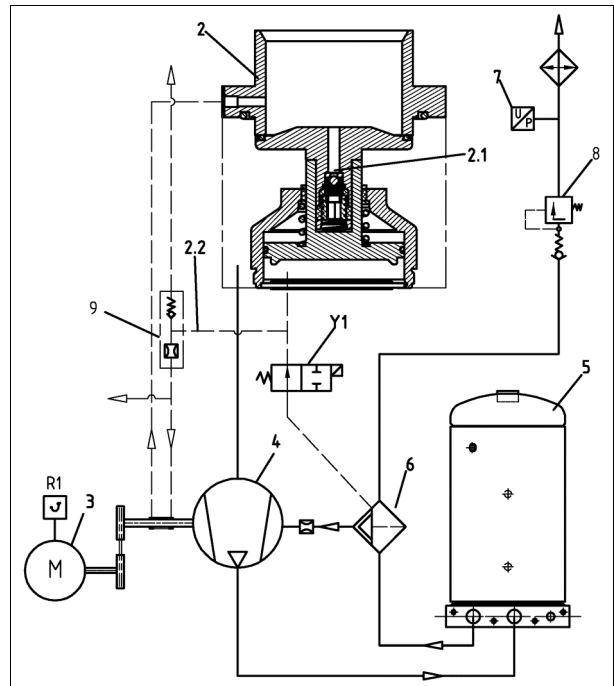

Fig. 4
- When the system is at rest the intake regulator (- 2 - Fig. 4) is closed.
- The solenoid valve (Y1 Fig. 4) is de-energised.
- The pressure reservoir (- 5 - Fig. 4) is bled via the blow-off line (- 2.2 - Fig. 4) and the orifice (-9 - Fig. 4) into the suction channel.
- The motor (- 3 - Fig. 4) starts up in the Y-mode.
- The compressor extracts a certain volume of air via a start valve (- 2.1 - Fig. 4). Pressure builds up in the reservoir and closes the regulator.
- When changing over to  $\Delta$  operation, the solenoid valve (- Y1 - Fig. 4) is energised, which blocks the connection between pressure vessel and intake regulator.
- The intake regulator opens due to the intake vacuum pressure. Venting of the control piston takes place via the blow-off line (- 2.2 - Fig. 4).
- The minimum pressure valve (- 8 - Fig. 4) opens when the pressure reservoir is approx. 4.5 bar.
- When the pressure reaches the upper switching point set on the network pressure sensor (-7 - Fig. 4), solenoid valve (Y1 Fig. 4) is de-energised.
- The intake regulator (- 2 - Fig. 4) is vented and closed.
- The pressure reservoir (- 5 - Fig. 4) is depressurised via the intake filter.
- If the lower switching point is reached in less than 90 seconds, the solenoid valve (- Y1 - Fig. 4) is energised again.
- After pressing the OFF button  (Fig. 16) on the operating panel, the solenoid valve (- Y1 - Fig. 4) is de-energised.
- The intake regulator (- 2 - Fig. 4) closes and the tank (- 5 - Fig. 4) is relieved.
- After 30 seconds, the drive motor (- 3 - Fig. 4) is shut down.
- The motor (- 3 - Fig. 4) starts up.
- This way, constant pressure of approx. 4 to 4.5 bar is maintained in the pressure tank (- 5 - Fig. 4), as the pressure holding non-return valve (- 8 - Fig. 4) still remains closed at this pressure level.
- Oil is supplied to the screw compressor (- 3 - Fig. 4) due to the pressure differential between the pressure reservoir (- 5 - Fig. 4) and the place of injection in the screw compressor (- 4 -).
- If pressure in the load system falls below the minimum pressure programmed on the control system, the solenoid valve (-Y1- Fig. 4) is energized and opened. Pressure then continues to build up in the pressure reservoir (- 5 - Fig. 4).
- After pressing the OFF button on the control panel of the compressor control system DELCOS Pro LRS, the magnet valve (- Y1 - Fig. 4) is de-energized (closed) while the drive motor is still running.
- The pressure reservoir (- 5 - Fig. 4) is depressurized to a constant pressure of 4 to 4.5 bar.
- The drive motor (- 3 - Fig. 4) reduces its number of revs to the set minimum value and comes to a standstill after 30 seconds have passed.
- Once the drive motor has stopped, solenoid valve (- Y1 - Fig. 4) is deenergized (closed) and the remaining pressure in the reservoir is discharged via the orifice (- 9 - Fig. 4).
- If the motor has reached minimum speed and the load-system pressure continues to rise, solenoid valve (Y1 Fig. 4) is deenergized (closed). Reservoir pressure is reduced to approx. 4 to 4.5 bar and the pressure-maintenance valve (- 8 - Fig. 4) closes.
- If the target value is achieved before the expiration of the programmed motor follow-up time, then the magnet valve (Y1 Fig. 4) will again be energized.